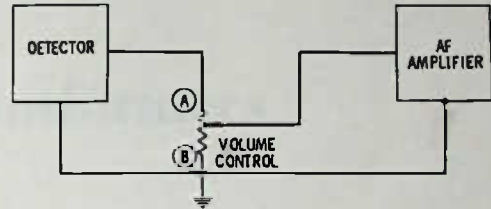

Fig. 2-26. Schematic for Question 50.
50. In Fig. 2-26, if the volume control arm is at point **B**